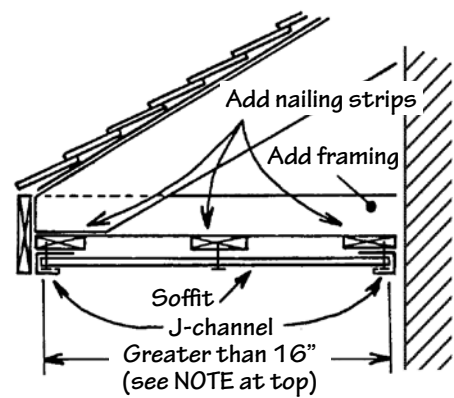

Figure 66.
**NOTE:** Nailing strips must be installed as shown in Fig. 66 if the eave span is greater than 16" (406mm), unless otherwise specified in the soffit manufacturer's instructions. In areas with high wind restrictions, nailing should not exceed 12" (305mm) on center, unless otherwise specified by the manufacturer.